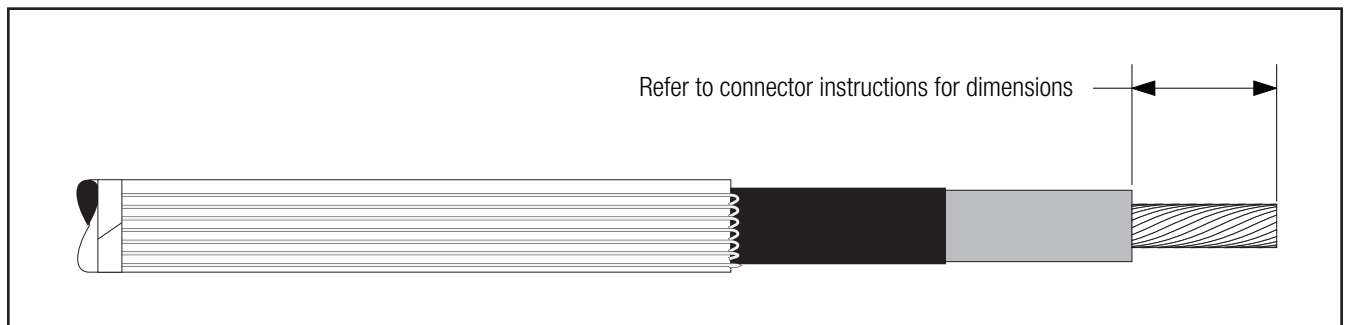

Figure 8
3.1 If using a 3M™ Shearbolt Connector QCI 2-250, refer to the instructions included with the connector for insulation cut-back dimension. Insulation removal length shall not exceed 2 1/2" (64 mm) from conductor end (*Figure 8*).